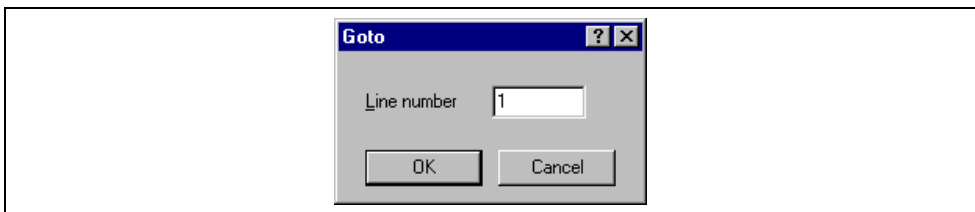

Figure 4.5: Goto Dialog
2. Select [**Edit->Goto Line...**], press **CTRL+G**, or select [**Goto Line...**] from the editor window’s local menu. A goto line dialog box will be displayed (figure 4.5).